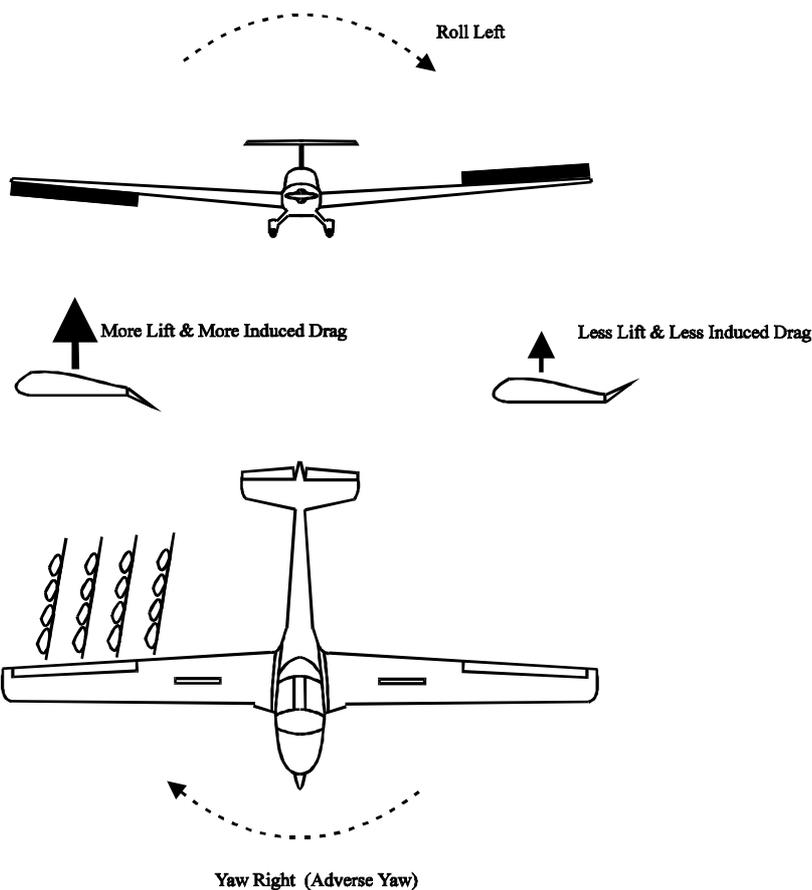
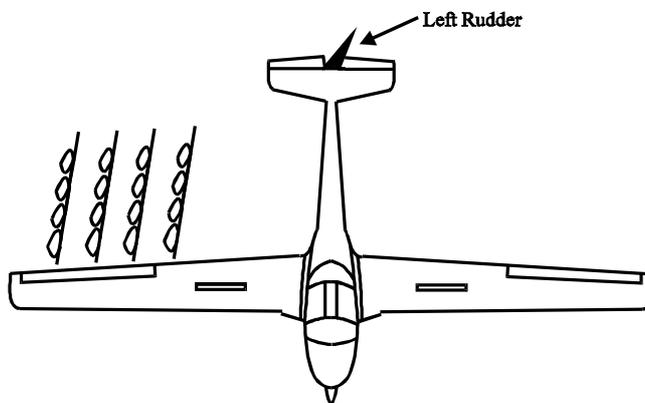

Fig 5a. Aileron drag inducing Adverse Yaw.
Fig 5b. Rudder overcoming Adverse Yaw
10. **Adverse yaw and co-ordination.** When the control column is moved to one side the down-going aileron produces more lift than the up going aileron and consequently also produces more induced drag. This is known as aileron drag and it causes adverse yaw (yaw in the opposite direction to the roll, see Fig 5a). This effect will be demonstrated to you. You will then be taught how to eliminate adverse yaw by co-ordinating the use of aileron with rudder (Fig 5b). This co-ordination of aileron and rudder is necessary to ensure balanced flight.